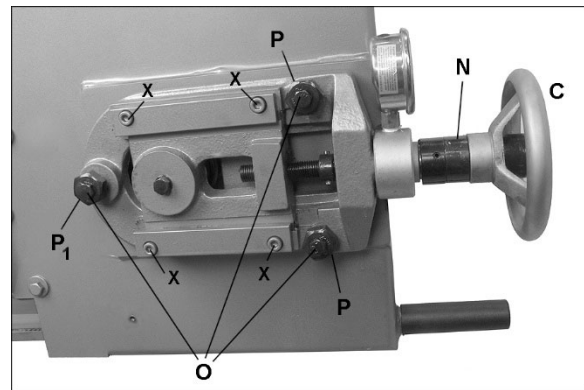

Figure 7-4: blade tension and tracking
Refer to Figure 7-4.
Blade tension has been set by manufacturer at approximately 1800 kg/cm² (25,000 psi) for the supplied blade. Turn handwheel (C, Figure 7-4) clockwise; if collar (N) slips out of position, then blade is properly tensioned. Continue turning handwheel until collar re-engages. NOTE: Simply turn handwheel, do not press on it.
4. Loosen center locking screws (O, Figure 7-4) in all three hex adjustment screws (P) on tensioning mechanism.